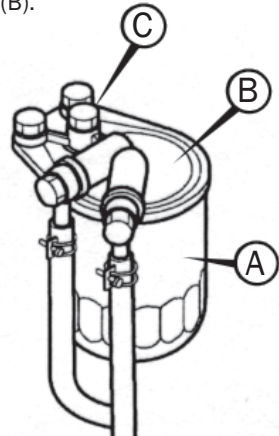

Figure 5.6.3. The filter for the inline fuel injection pump.
1. Using a suitable strap wrench, unscrew the cartridge, A (figure 5.6.3) from the filter head (B).
1. Open the bleed screw, C (figure 5.6.3) on top of the filter head.
2. Loosen the priming cap (D) of the fuel feed pump by turning it anticlockwise, then move it up and down.
3. Tighten the bleed screw (C) when no further air bubbles are expelled.
4. Open the bleed screw (E) on the fuel injection pump.
6. Tighten the bleed screw (E) when no further air bubbles are expelled.